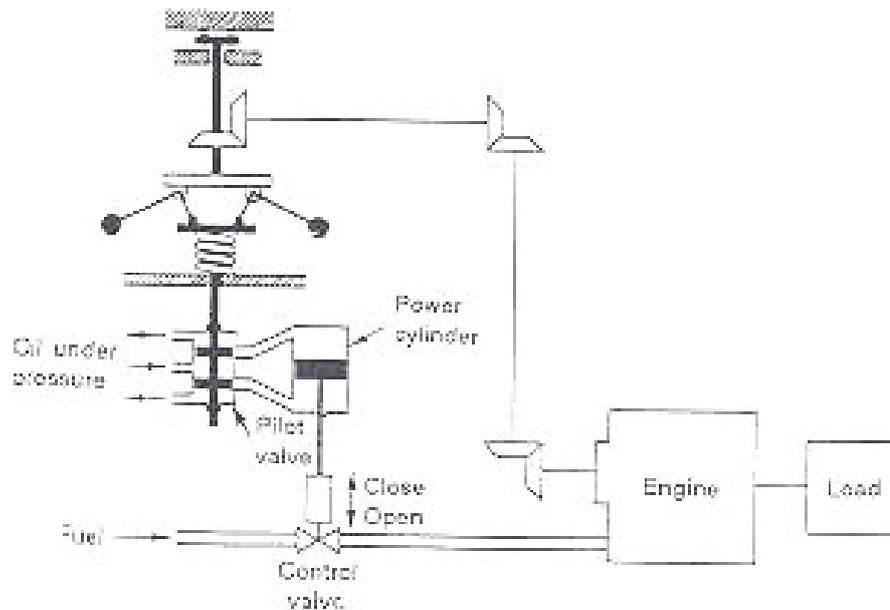

Figure 11-1. Speed Control System
**Speed Control System.** The basic principle of a Watt's speed governor for an engine is illustrated in the schematic diagram of Figure 11-1. The amount of fuel admitted to the engine is adjusted according to the difference between the desired and the actual engine speeds.